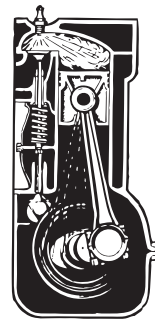

Figure P8.37 Scroll compressor for problem P8.37.
- 8-37.** The compressive stresses under the discharge vane in the scroll compressor of Fig. P8.37 are observed to be $\sigma_c(t) = 9.65 - 2.95 \cos(120\pi t)$, where t is measured in seconds and $\sigma_c(t)$ in ksi.